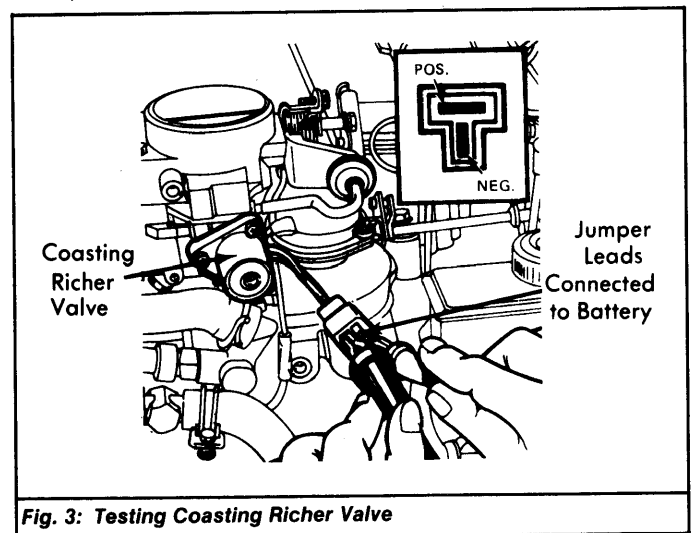

Fig. 3: Testing Coasting Richer Valve
- Coasting Richer Valve** - 1) Start engine and run at idle. Disconnect coasting richer valve electrical connector from carburetor. Connect valve electrical connector to battery. See Fig. 3. If engine speed immediately rises to 950-1200 RPM, valve is operating correctly.